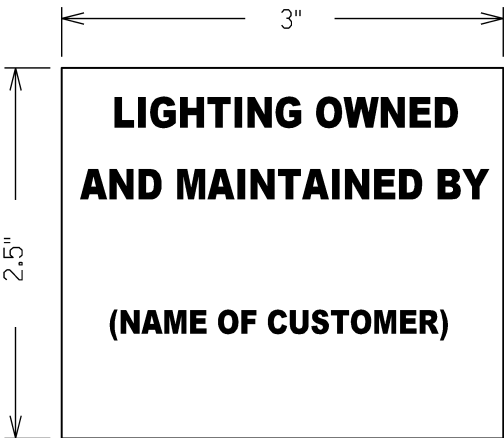

Figure 1 – Ownership Identification Label for Customer Owned Outdoor Luminaires
Ownership Identification: The customer is responsible to label all customer owned outdoor lighting luminaires in accordance with National Grid Construction Standards. See Figures 1 and 2.
- 2. Ownership identification labels shall be reflective white with black lettering. See Figure 1.